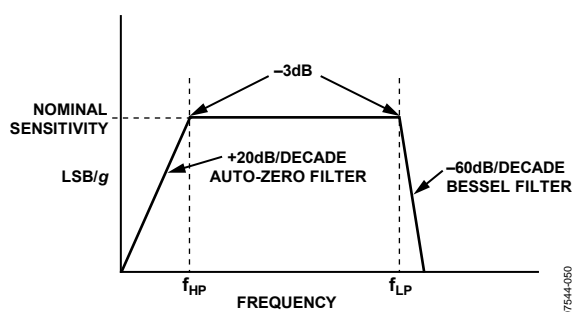

Figure 29. Bode Plot of ADXL180 Transfer Function
The three-pole, low-pass Bessel filter has a selectable  $-3$  dB corner ( $f_{LP}$ ). The corner can be set to 100 Hz, 200 Hz, 400 Hz, or 800 Hz by programming the filter corner (FC) bits in the configuration registers. In the pass band between  $f_{HP}$  and  $f_{LP}$ , the response of the ADXL180 is flat with the nominal scale factor defined by the settings of the range (RG) bits in the configuration registers (see Figure 29). The auto-zero function creates a first-order high-pass filter with a  $-3$  dB corner at  $f_{LP}$ . Note that the output of this filter is slew rate limited. The auto-zero function can be disabled by setting the appropriate bit in the configuration registers. See the Specifications section for more information.